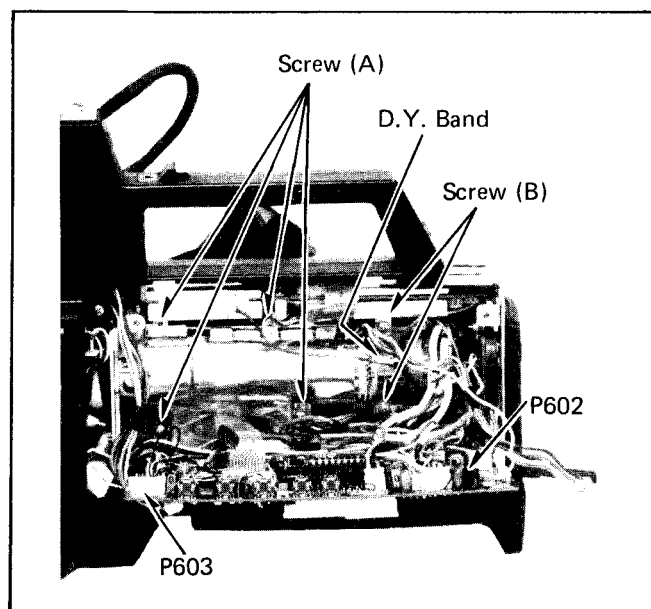

Fig. 2. Right Side View
- 3-2. Disconnect 2 connectors (P602, P603) (see Fig. 2).
- 3-3. Unscrew 4 screws (A) and 2 screws (B) (see Fig. 2)